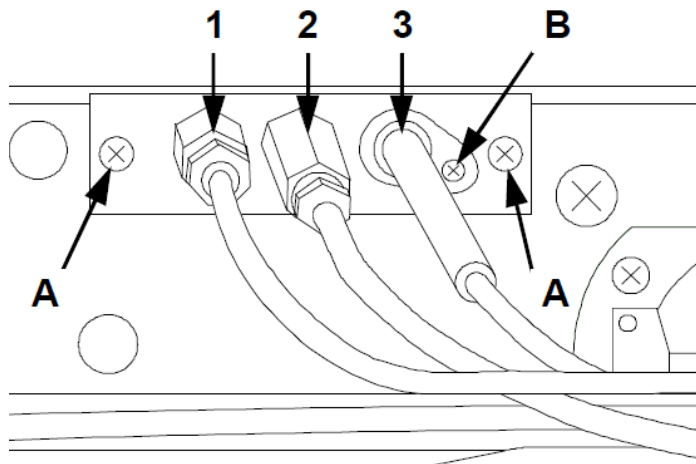

FIG.18 (Substitution thermocouple, pilot and plug)
- Unscrew the thermocouple with an appropriate spanner (FIG.18-Ref.1);
- Unscrew the 2 supporting screws (FIG.18-Ref.A) fix the new pilot;
- Fix the new pilot following the above procedure (FIG.18-Ref.2) .
- Remove the plug unscrewing the screw (FIG:18-Ref.B);
- Fix the new plug (FIG.18-Ref.3) following the above procedure.